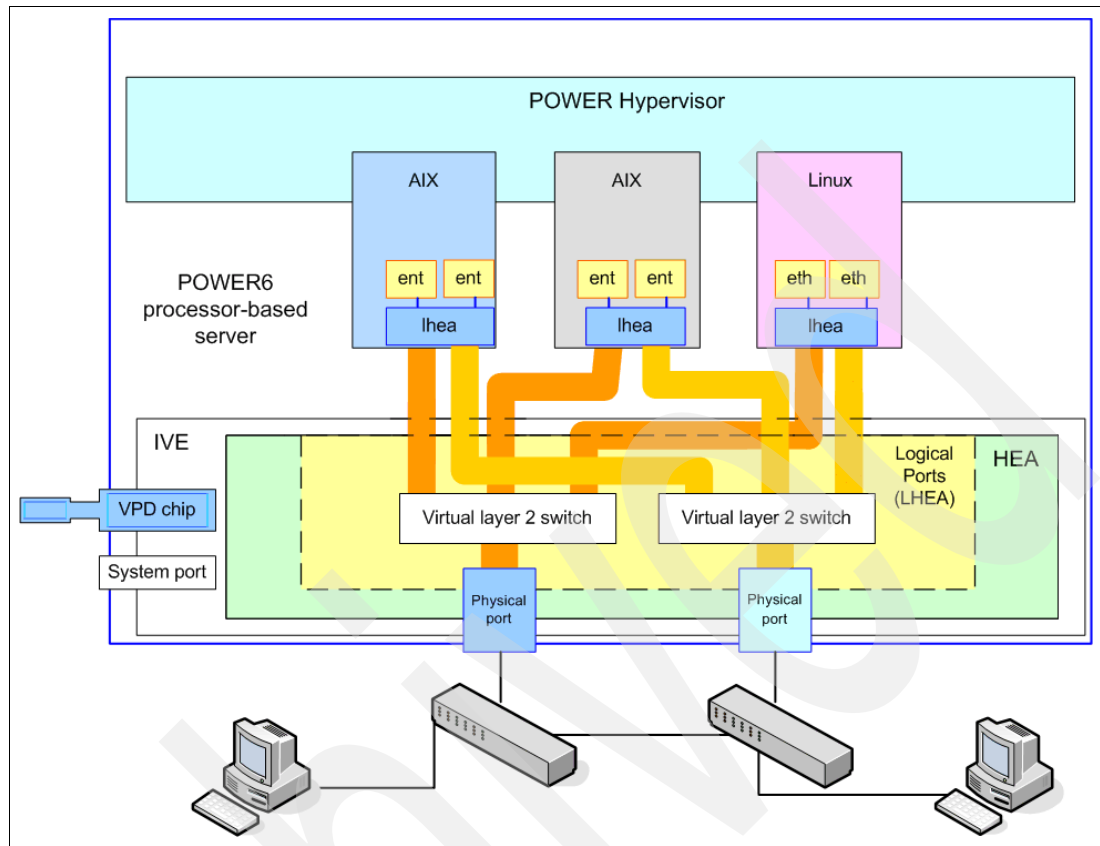

Figure 2-2 IVE logical components diagram
- ▶ The Host Ethernet Adapter (HEA) is the major hardware component of the IVE, and it is included in the P5IOC2 chip. HEA also includes all the logical ports and the virtual layer 2 switches (see Figure 2-2 on page 14) and connects to the physical port.
Figure 2-2 shows the major logical components of an IVE.